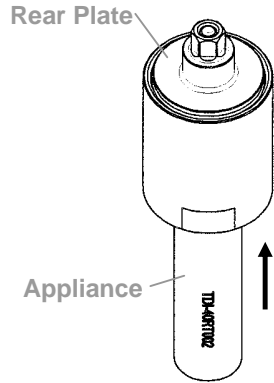

Fig. 49
- ② Use the appliance to push out the rear plate from the pulse cylinder seat. See Table 2 in reference to the proper appliance selection. (Fig. 49)